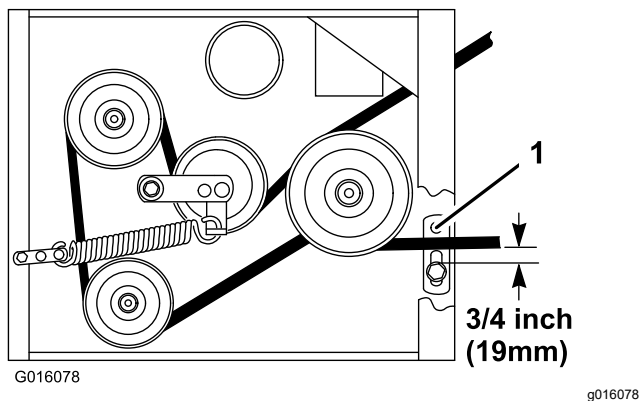

Figure 10
8. Check the belt guide under the engine frame for proper adjustment (Figure 10).
Note: When the mower belt is engaged, ensure that the distance between the belt guide and the mower belt is 19 mm (3/4 inch) (Figure 10). Adjust the mower belt guide as necessary. The disengaged belt should not drag or fall off the pulley when the guides are properly adjusted.